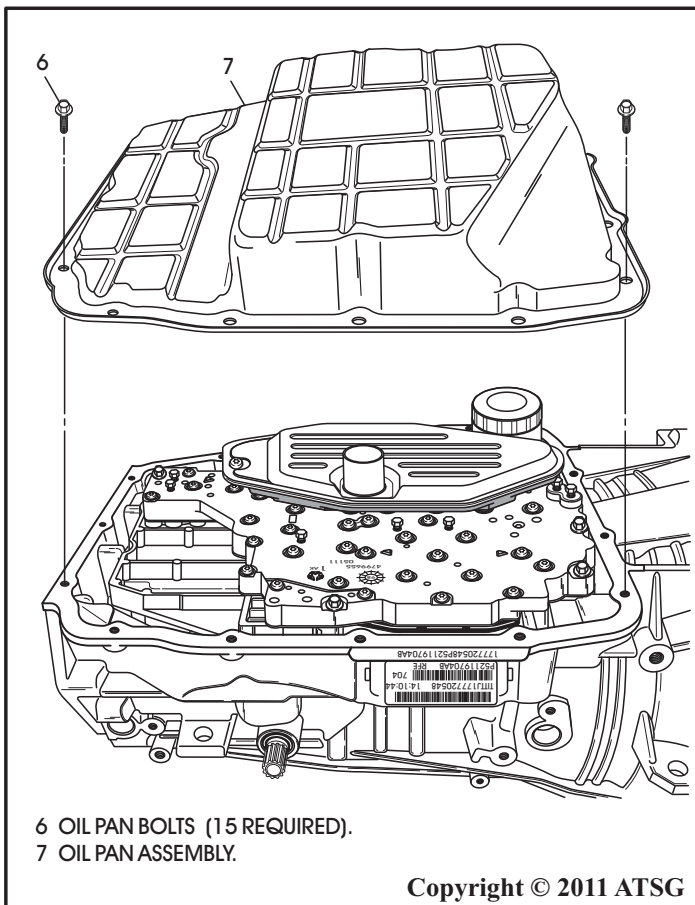

Figure 163
46. Apply a bead of RTV silicone to oil pan gasket surface and install oil pan on the transmission case, as shown in Figure 163.
47. Install the 15 oil pan retaining bolts, as shown in Figure 163, and torque to 12 N·m (105 in.lb.).